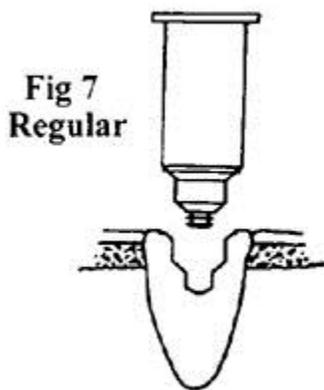

Fig 7
6. Using the ZAAG Parallel Post as a handle, try in the metal female to check for proper fit (Fig 7 & 8). When placing multiple attachments, use the metal female try-in with Parallel Post as a guide to create the following pilot holes parallel to the first preparation.